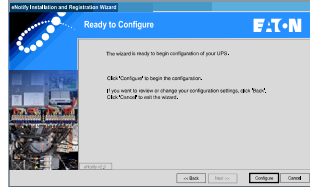

Figure 22. Ready to Configure
12. The wizard has finished gathering all of your configuration information and opens the Ready to Configure screen (Figure 22).